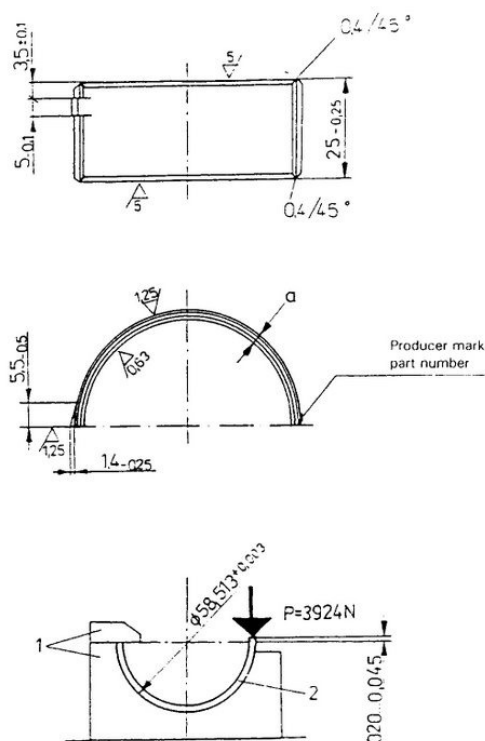

Fig. 28. Connecting rod half shell
- Replace the connecting rod halfshells (Fig. 28) if they are excessively worn or have a deep scratches on their working surfaces in result of seizing.